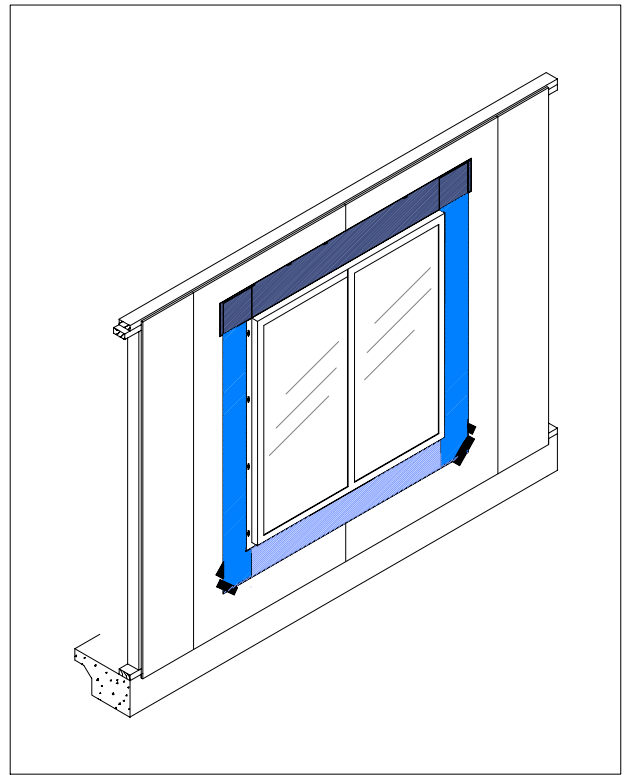

Figure B.9.1
9. Apply the head flashing by bedding it into the sealant previously applied, overlapping it 1” on each side of the jamb flashing, and secure it with fasteners to the sheathing. **See Figure B.9.1**